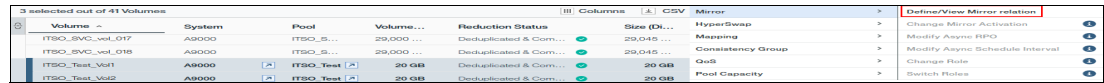

Figure 4-22 Selecting volumes for mirroring
- Select the volumes in the **Volume** view and right-click or use the **Actions** menu to select **Mirror** → **Define/View Mirror relation**, as shown in Figure 4-22.